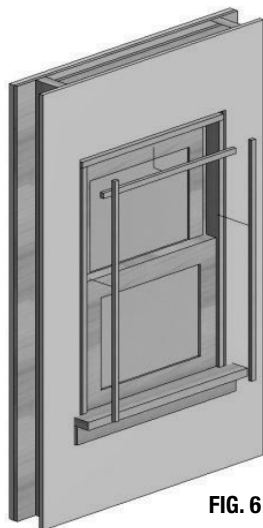

FIG. 6
- B) Remove interior stops from frame. If you plan to reuse interior stops, remove with caution. (Fig. 6)